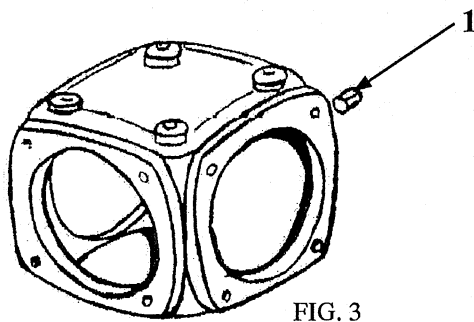

FIG. 3
- Check oil level in gearbox by watching through the oil level plug, located in the back of the box (1 on Fig. 3). If needed to add oil, unscrew the same plug and fill in the box